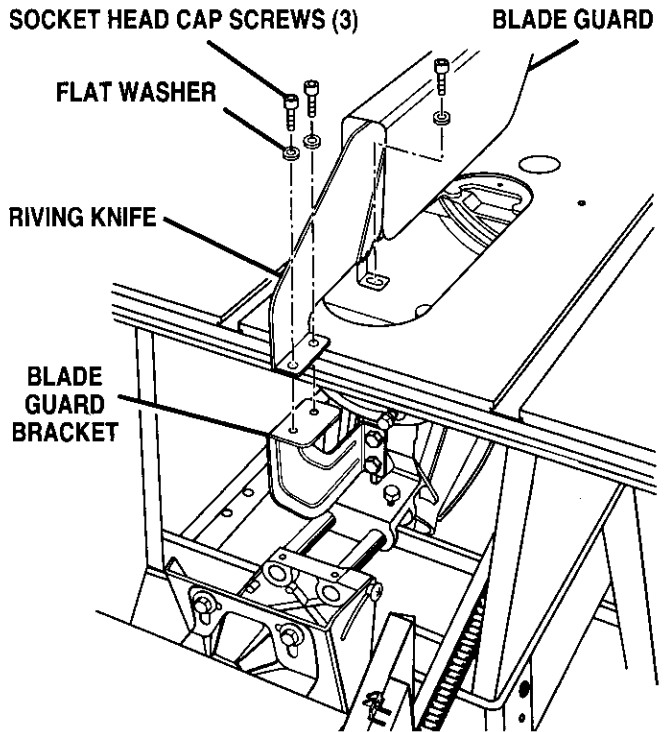

Fig. 30
- Put the blade guard assembly in place on the tabletop, aligning the screwholes in the riving knife to the holes in the blade guard bracket. Align the hole in the front of the riving knife base with screw hole in the cradle. See Figure 30.